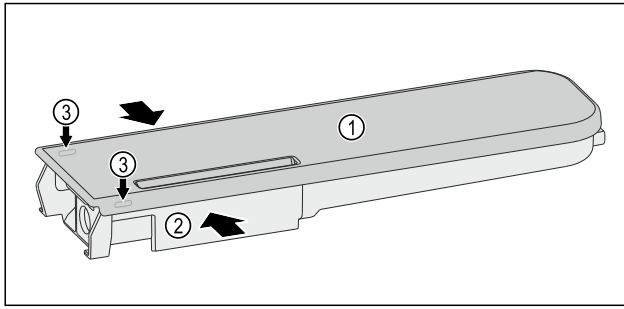

Fig. 136
- Push the water tanks Fig. 136 (2) together, leverage the cover Fig. 136 (1) carefully over the latching tabs Fig. 136 (3) and lift it up.
- Move the cover Fig. 136 (1) slightly forwards and back, and remove to the top.